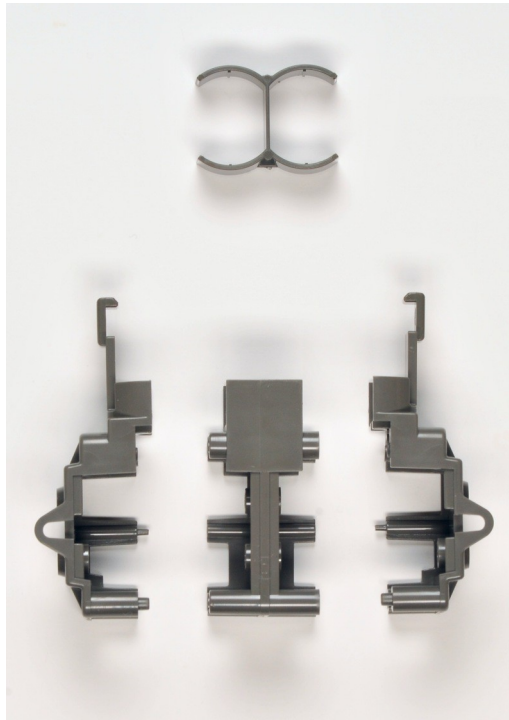

Figure 1.4
- One (1) yellow crown gear
- Three (3) blue 2-step gears
- One (1) yellow final gear
- Two (1) yellow long spacers and two short spacers (may be attached)
5. Identify the gearbox housing, as shown in figure 1.4.